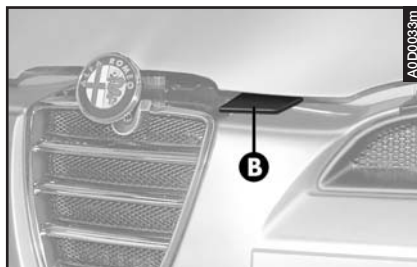

fig. 142
- Raise the safety lever upwards (**B**-fig. 142).